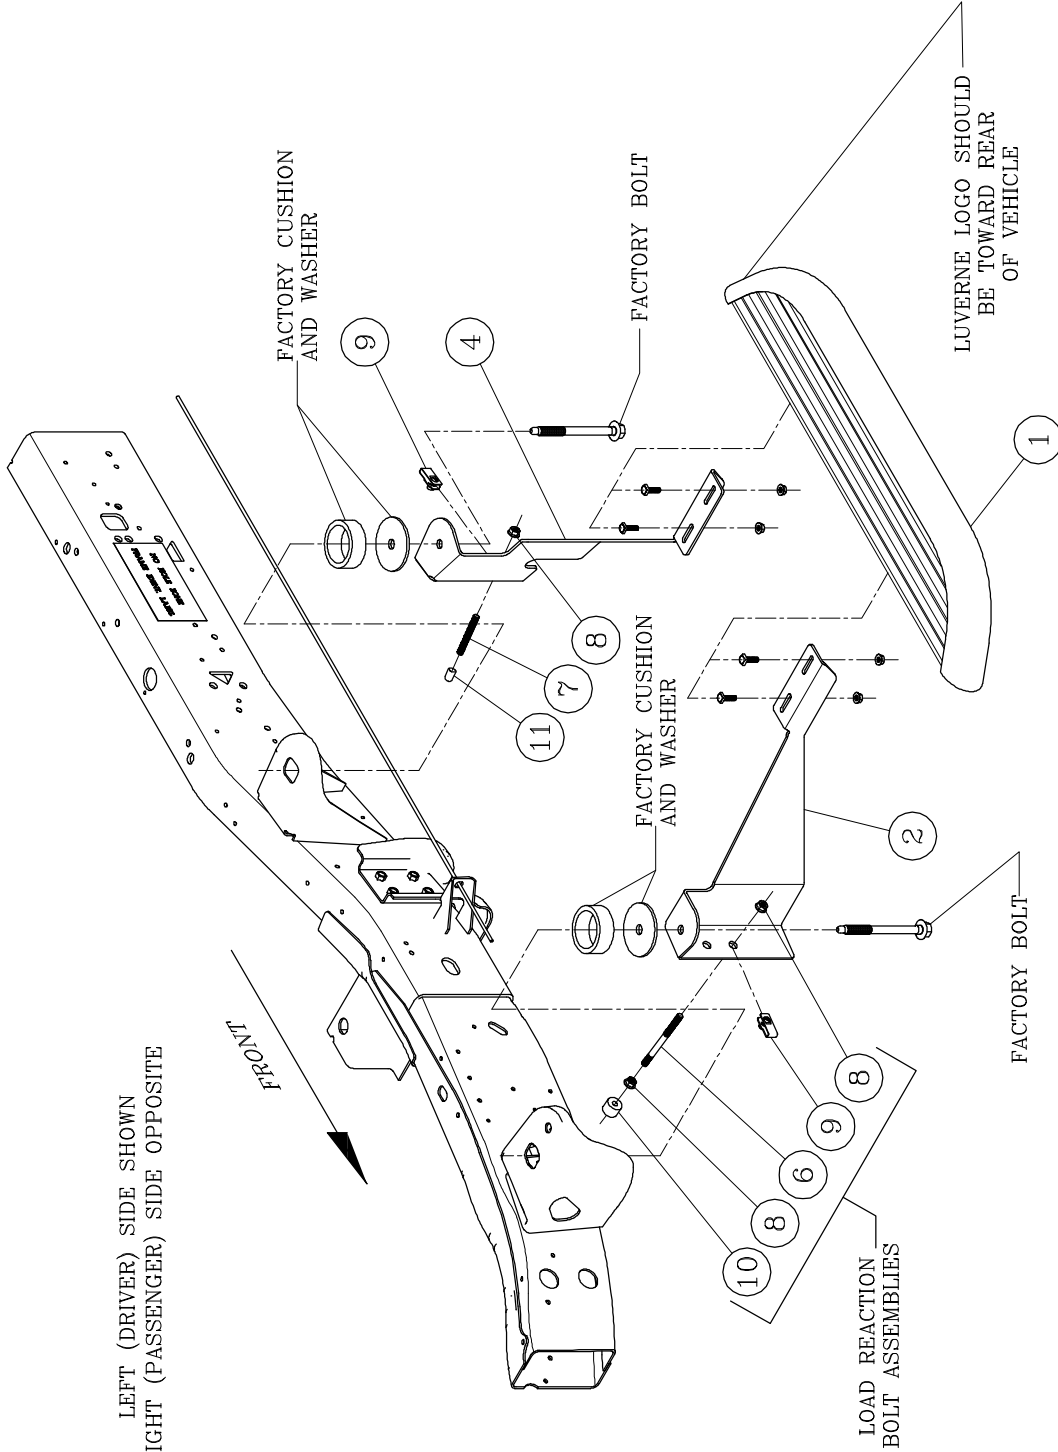

fig. 1
2. INSTALL THE MULTI-THREAD U-NUT (ITEM #9) ON THE FRONT MOUNTING BRACKET (ITEM #2) AND ASSEMBLE THE 3/8"-16 X 5 STUD (ITEM #6), 3/8"-16 SERRATED FLANGE NUTS (ITEM #8) AND THE .354 X 1.00 X .748 RUBBER WASHER (ITEM #10) INTO THE U-NUT (ITEM #9) (**LOAD REACTION BOLT ASSEMBLY**) AS SHOWN IN *fig. 1*.
5. INSTALL THE MULTI-THREAD U-NUT (ITEM #9) ON THE SECOND MOUNTING BRACKET (ITEM #4) AND ASSEMBLE THE 3/8"-16 X 3" STUD (ITEM #7), 3/8"-16 SERRATED FLANGE NUT (ITEM #8) AND THE 5/8" VINYL CAP PLUG (ITEM #11) INTO THE U-NUT (ITEM #9) (**LOAD REACTION BOLT ASSEMBLY**) AS SHOWN IN *fig. 1*.